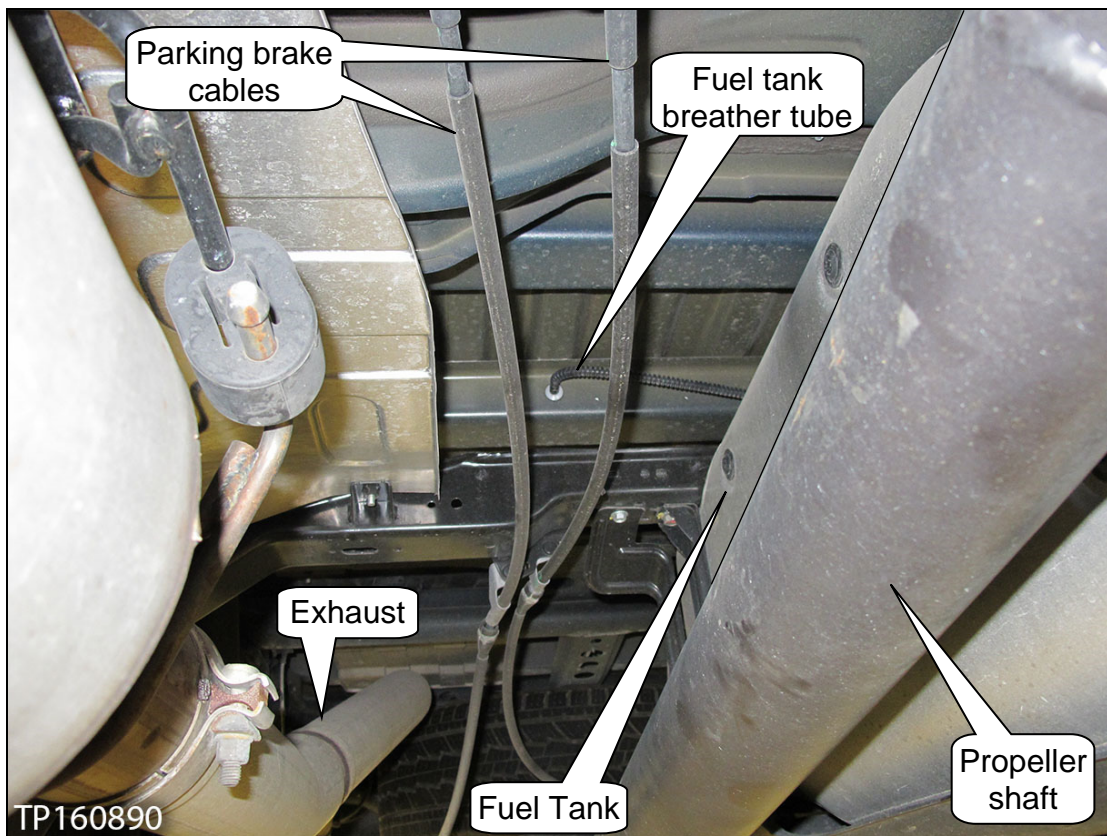

Figure 1
2. Locate the fuel tank breather tube (breather tube). See Figure 1.